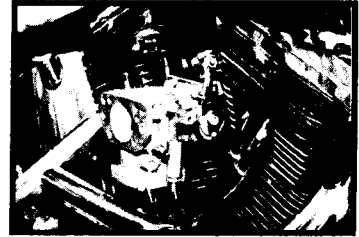

FIGURE 4
2) Remove the dome and piston from the carburetor body. Use the remaining two small head bolts for the top mounting holes between the manifold and carburetor body. Use gasket supplied between the carburetor and manifold. Install the cable holder on the top two bolts on the outside of the body. Install the remaining two bolts and the leveling bracket attached to the bottom right bolt on the carburetor body and the center case bolt on the engine. Install lock washers and nuts on mounting bolts, lightly snugged. Visually align the carburetor bore in relation to the intake manifold by opening the throttle disc. Level the carburetor and tighten the mounting bolts on the manifold and carburetor. Install the Push-Pull throttle cables onto the rotor. Adjust the cables now to assure the throttle disc is opening exactly halfway and closes to the throttle stop on the carburetor body. The throttle stop is the idle adjustment screw. After you have adjusted the cables securely, tighten the adjusting nuts on the cables. (Figure 4)